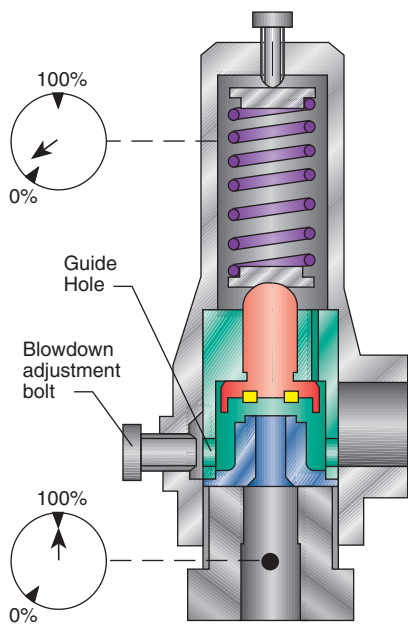

Figure 4
3. At set pressure, the initial flow across the seat is exposed to the additional area of the spindle skirt, which generates additional lifting forces. At this opening instant, the pressure in the inner chamber is greater than the pressure in the spring chamber. This is due to the restricted annular area between the spindle and the guide. This increased force rapidly accelerates the spindle to its full open position (see Figure 4, page 47).
4. After the spindle has lifted, a developed back pressure will be present in the spring chamber. This is due to the pressure drop across the secondary orifice. This pressure then acts down against the area of the spindle, as a supplemental force to assist the spring in closing the spindle (see Figure 4, page 47).
5. This pressure in turn can be adjusted externally with a threaded bolt, which partially restricts one of the guide holes. This adjustment varies the amount of developed back pressure in the spring chamber (see Figure 4, page 47) and controls blowdown, independently of set pressure.
Complete restriction of the flow through one of these guide holes by the blowdown adjustment will not affect capacity since the back pressure will never exceed 50 percent of the inlet pressure (see Figure 4, page 47).